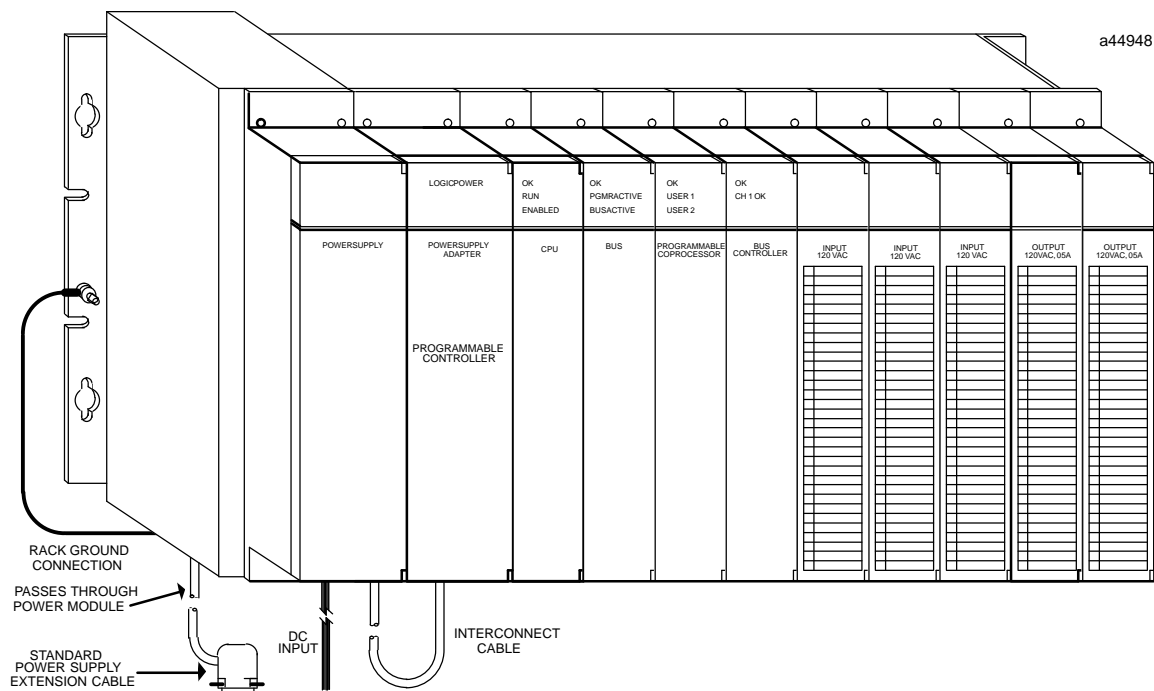

Figure 2. 24 VDC Power Supply Installation: Left Side of Rack
- It can also be attached to the left side of the rack when used in a panel mount application by removing the right side plate from the power supply and attaching the power supply to the rack using available hardware (see Figures 2 and 3). Mounting holes for the left side power supply mounting configuration have been added to the standard rack. The following rack revisions must be used for this application: